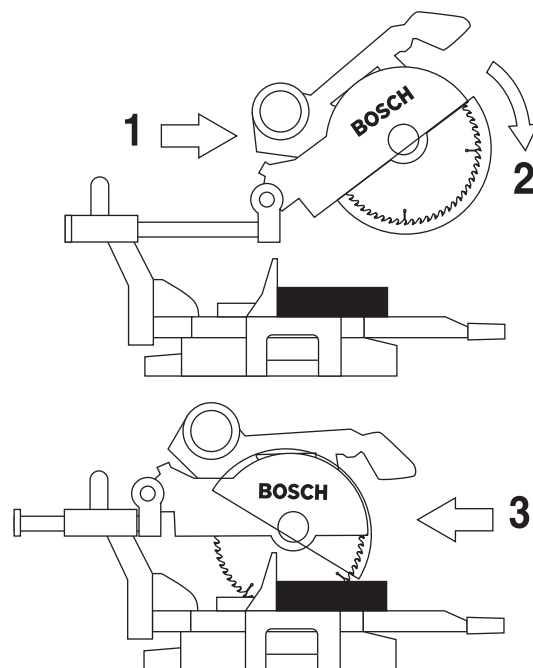

Figure 27. Slide Cut
3. Grasp the switch handle and pull the head assembly away from the fence, until the blade clears the workpiece or to its maximum extension if blade cannot clear the workpiece (Figure 27).